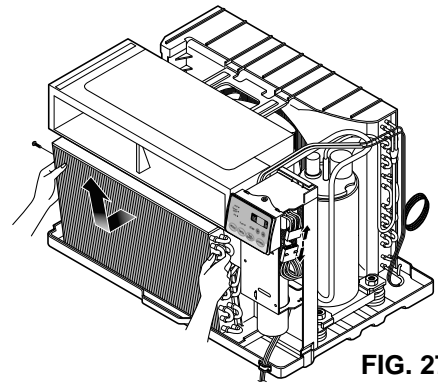

FIG. 27
3. Remove the 2 screws which fasten the evaporator at the left side and the right side. (See Fig. 27)